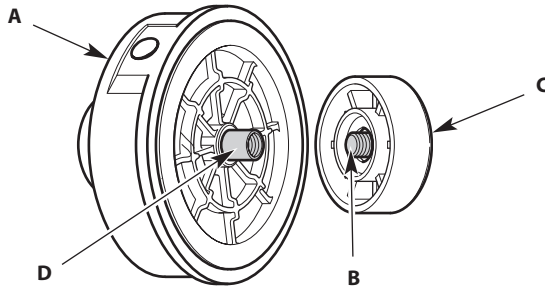

Fig. 1
1. Hold the cutting head in place (Fig. 1). Turn the bump knob counterclockwise to unscrew it from the cutting head (Fig. 1).
2. Inspect the bolt inside the bump knob to make sure it moves freely (Fig. 1). Replace the bump knob if it is damaged.
5. While holding the inner reel and outer spool together, screw the bump knob on clockwise (Fig. 1). Tighten the bump knob securely.